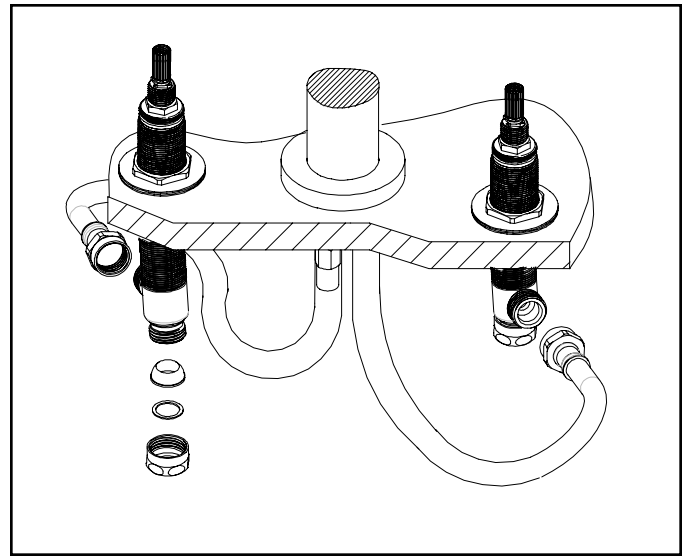

Figure 2
3. Connect hoses to side outlet of each valve body. Hand-tighten and secure each connection with a wrench 1/4 turn. See Fig. 2
4. Attach hot/cold water supply hoses (not included) to appropriate valve, utilizing cone washers, friction rings and nuts supplied. See Fig. 2